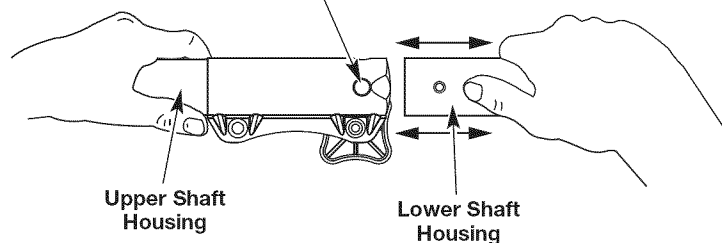

Fig. 5
2. While firmly holding the trimmer attachment or other attachment, push it straight into the Convertible™ coupler until the release button snaps firmly into the primary hole (Fig. 5).
CAUTION: Before operating this unit, be sure that the release button is fully snapped into the primary hole (Fig. 5), and that the knob (Fig. 3) is securely tightened.
3. While firmly holding the upper shaft housing, pull the trimmer attachment or other attachment straight out of the Convertible™ coupler (Fig. 5).